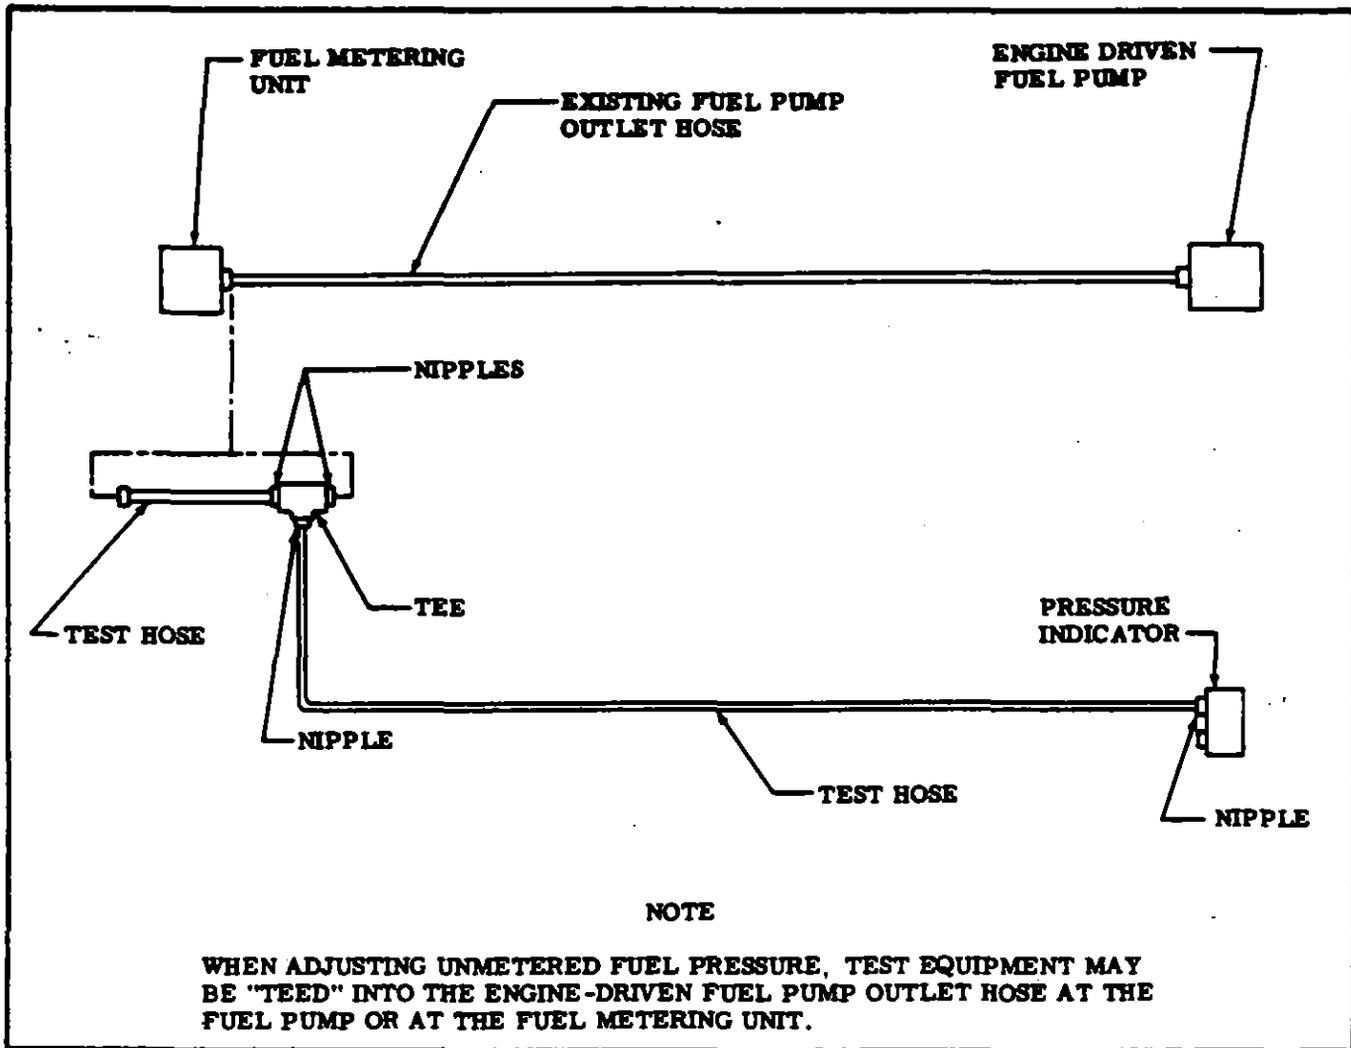

Figure 12A-2. Fuel Injection Pump Adjustment Test Harness
- b. Disconnect the engine-driven fuel pump pressure hose and fittings, connect the test gage pressure and vent ports into the fuel injection system in as illustrated in figure 12A-2.